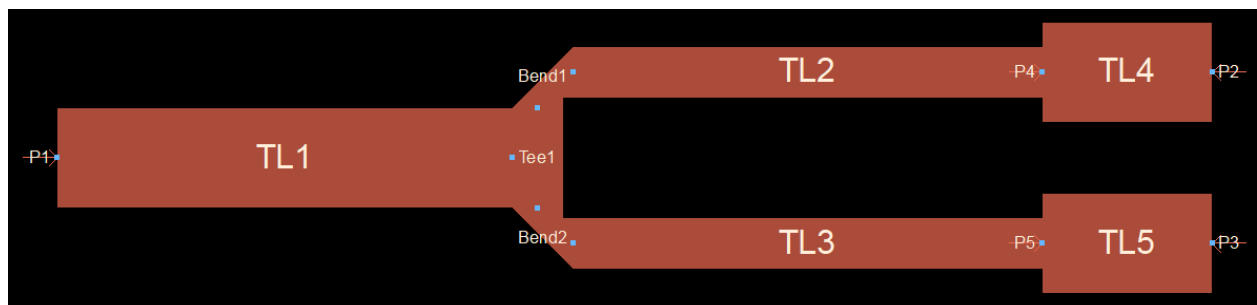

Figure 16. Layout for power divider shown with Ports 4 and 5 added
3. Since the isolation resistor will be added between the outputs, add a port between each of the 50 Ω and 70.7 Ω lines. The layout is shown in Figure 16.